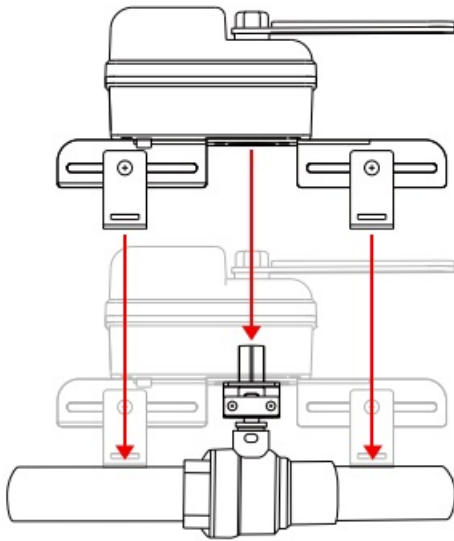

Figure 1
3. The EVO is shipped with a pair of brackets, in two sizes. To check for the appropriate size, lower the EVO Valve Operator over the valve shaft adapter, as shown in Figure 1, below.